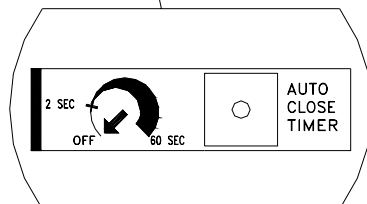

Figure 19: Location of Auto-Close Timer Adjustment
The Timer to Close is controlled by the setting of the “AUTO CLOSE TIMER” potentiometer on the control board, see Figure 19. When the pot is adjusted fully counter-clockwise the Timer-To-Close is disabled. Turning the pot approximately 1/4 turn clockwise will enable the Timer To Close function with a delay of approximately 2 seconds between the gate reaching the full open position and automatically closing. To increase the time delay continue to turn the pot in the clockwise direction to a maximum delay of 60 seconds (one minute).
2. If the TIMER TO CLOSE option has been selected, the timer will activate the gate to close within a maximum of 60 seconds depending on the setting of the TIMER TO CLOSE potentiometer (See Figure 19, Page 16).
To alter the amount of time that the close timer will hold the gate open, adjust the timer potentiometer located on the Control Board. See Figure 19, page 16.